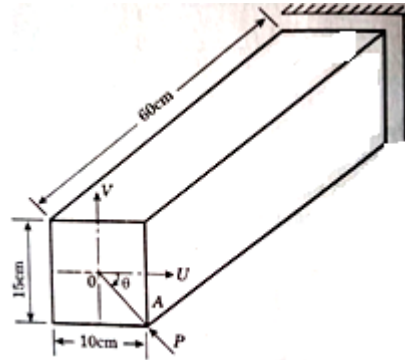

Fig.1
- b) A displacement field  $u=2xyi+3zk$  where  $i$  and  $k$  are unit vectors along  $x$  and  $z$  directions is acting at  $(1, 1, 0)$ . Find the rectangular components of strain and obtain the state of strain matrix? (6)
- 3 a) Describe the Airy's stress function with the help of second degree polynomial? (4)
- b) Obtain the bending stress on the cross section of a cantilever beam carrying point load at the free end using polynomial stress function method? (6)
- 4 a) Write the generalized Hook's law for an isotropic material. (5)
- b) State and prove uniqueness theorem. (5)
- 5 a) Obtain the stress distribution in a rotating solid disc of radius 'b' with no external forces at the outer surface. (7)
- b) Sketch the circumferential stress distribution for a thick cylinder subjected to internal pressure only. (3)
- 6 a) Draw the stress distribution around a small hole (diameter 'b'), on a thin plate having large width ('a') where  $b \ll a$ , subjected to uniform tensile forces at the two edges. (4)
- b) What are the assumptions involved in axisymmetric problems. Write the governing equilibrium equations for the axisymmetric problem with sketch indicating stress components. (6)
- 7 a) Find the value of load  $P$  in Fig.1, so that the maximum bending stress allowed is 15MPa for the case of beam shown below, subjected to unsymmetrical bending. (8)